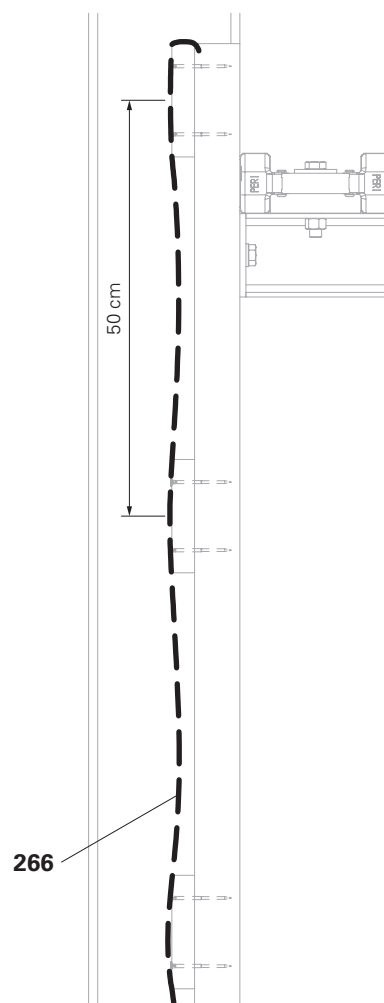

Fig. B2.20
3. Ensure that there is a sufficient overlap with other parts of the enclosure. (Fig. B2.20)